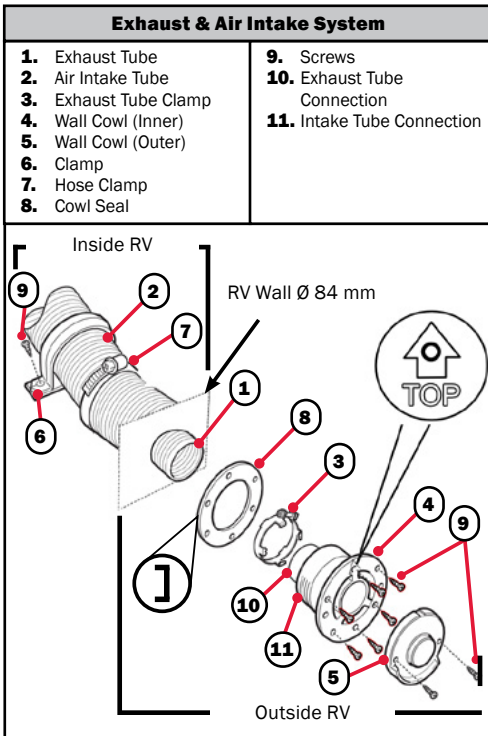

Figure 9
- Drill one hole (Ø 84 mm) in the RV wall and seal with the gasket (Figure 9 #8) smooth side facing the exhaust vent and gasket facing the RV wall (Figure 9 #3).